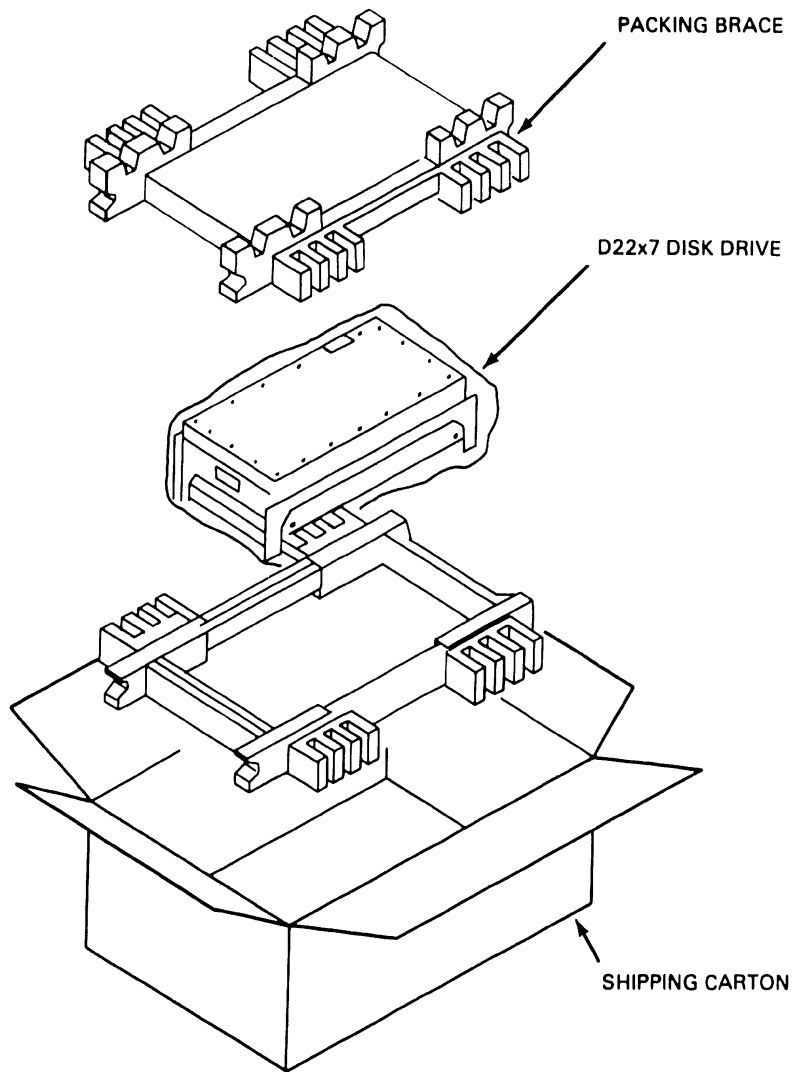

Figure 2-1 D22x7 Packaging
2. Remove the top packing cushion (see Figure 2-1).